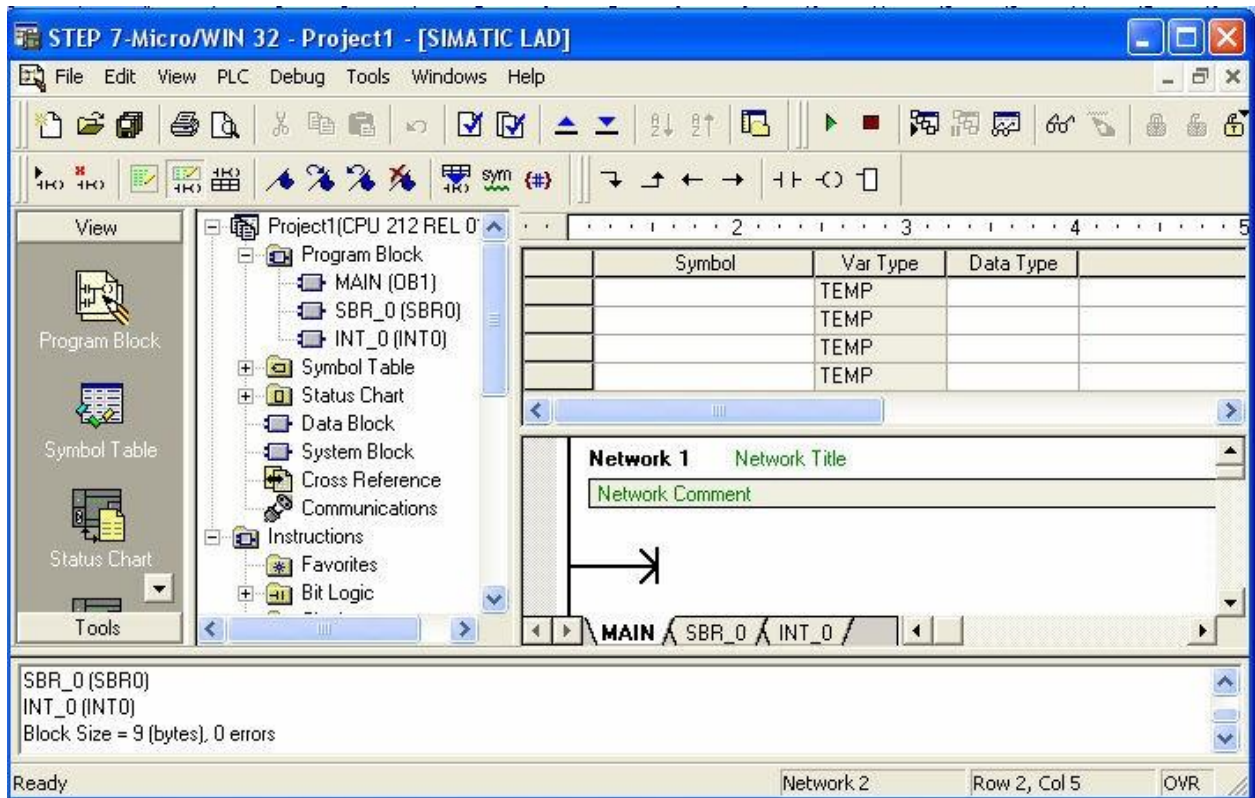

Figure 1.1 Step 7-Micro/Win 32
Step 7-Micro/Win 32 is user-friendly development environment for S7-200. A screen shot of Step 7-Micro/Win 32 is shown in Figure 1.1.